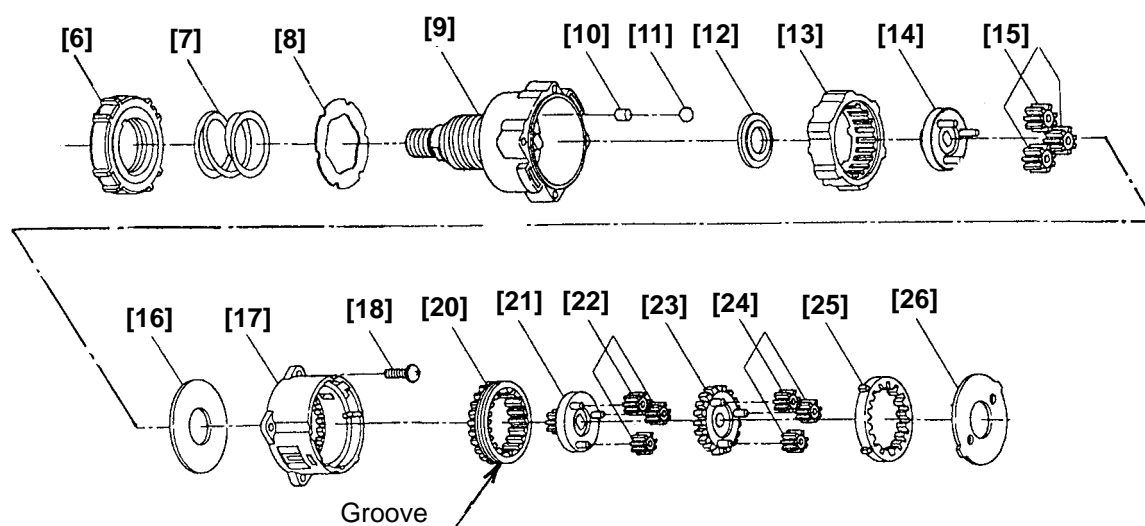

Fig. 7
(b) Install the parts series from the six Rollers [10] to Washer (B) [26] into the assembly reassembled in step (2). (See Fig. 7.)